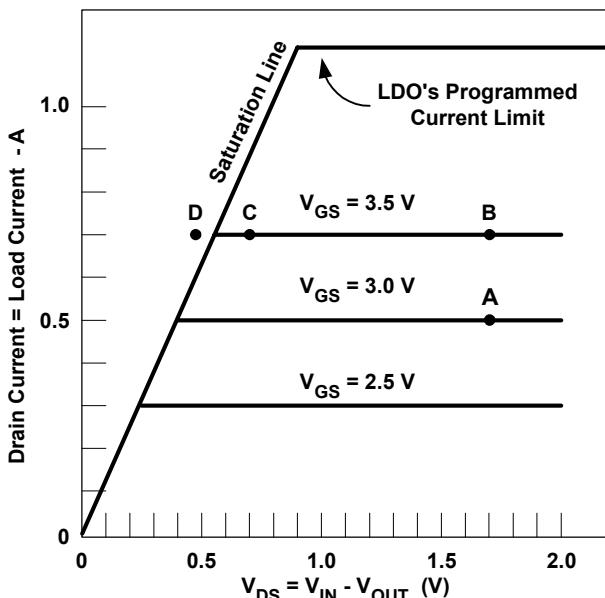
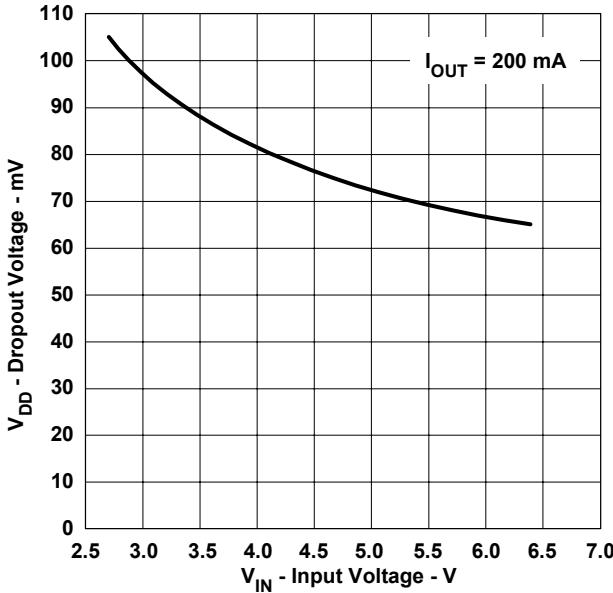

Fig. 3 Operating region of an LDO's N-channel pass element.
Fig. 7. TPS79901 dropout voltage vs. input voltage.
Fig. 3 shows the operating region of an LDO's N-channel pass element. The range of operation is limited in the x-axis by the saturation region of the pass element, and limited in the y-axis by either the pass element's saturation region or by the IC's programmed current limit. In order to operate properly and maintain a regulated output voltage, the pass element must operate within the boundaries set by these two lines. In the example, the drain-to-source voltage of 1.7 V and the drain current of 500 mA set the operating point at "A." At this point, the LDO sets the pass element's gate-to-source voltage at 3 V to maintain regulation. A line drawn through the origin and point "A" represents the  $3.4\text{ }\Omega$  resistance.
Consider a change to the static conditions in the example: if the load resistance decreases (an increase in load current), the LDO must react to maintain regulation. If it doesn't react, the LDO has a higher voltage drop across the pass element which causes the output voltage to fall out of regulation. The LDO must decrease the pass element's resistance by increasing the gate-to-source voltage on the FET. When the gate-to-source voltage increases, the operating point moves upward, assuming a fixed input and output voltage. If  $I_{OUT}=700$  mA, the error amplifier increases the pass element's gate-to-source voltage to 3.5 V to maintain regulation. This corresponds to "B." A line drawn through the origin and point "B" now represents a pass element resistance of  $2.4 \Omega$ . Fig. 3 shows that with a drain-to-source voltage of 1.7 V, the LDO's maximum current draw is only limited by the maximum programmed current limit.
LDO datasheets can only specify the IC's dropout voltage under a limited number of operating conditions. Few datasheets provide a graph like that shown in Fig. 3. For all other conditions, the user must interpolate the data to determine the dropout voltage at a specific output current. This task is surprisingly easy. As an example, consider an application that requires  $V_{OUT} = 3$  V at 170 mA with an input voltage that varies between 3.15 V and 3.45 V. The designer has chosen a TPS79330 LDO and needs to know if it can be ensured that the LDO doesn't enter dropout.
Table 1 shows the datasheet's ensured dropout voltage from the parametric table. The datasheet shows that the maximum dropout voltage (ensured over all temperatures) for a 3.0 V output at 200 mA is 200 mV. The minimum input voltage of 3.15 V for this application requires the effective dropout voltage be less than 150 mV at 200 mA. For this regulator, the actual dropout is less than 200 mV since the current is less than 200 mA, but the datasheet does not specify the dropout voltage at 170 mA. When operating in dropout, the LDO pass element is at its minimum  $R_{DS(on)}$  which is equivalent to operating on the saturation line like the one shown in Fig. 3. This minimum resistance is calculated by dividing the dropout voltage by the test current. The TPS79330 pass element minimum  $R_{DS(on)}$  is shown in Equation (3).
Another factor affecting an LDO's minimum dropout resistance is the input voltage to the device. This is a second-order effect, but is worth noting. The higher output voltage options require a higher input voltage, which allows the device to drive the pass element harder, and in turn provides a slightly lower resistance. Most discrete FET datasheets show a change in  $R_{DS(on)}$  versus gate-to-source voltage. Some LDO datasheets provide a graph (Fig. 7) of dropout versus input voltage, but this is rare. Even without a graph, this information is evident from the dropout data shown in Fig. 4. The 3.0-V option (TPS79330) in Fig. 3 has a 200-mV dropout voltage while the 4.75-V option (TPS793475) has a 125-mV dropout voltage. This is a 37 % reduction in dropout voltage.